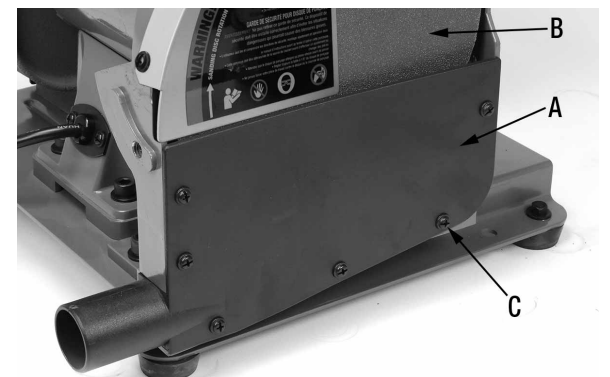

Figure 5
1. Install the disc dust chute (A) Fig.5 over the lower portion the sanding disc (B) as shown using 6 pan head screw (C).